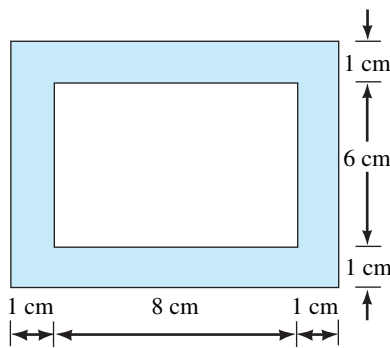

FIGURE 12–23
6. For the circuit of Figure 12–23, the length ℓ to use in Ampere’s law is (0.36 m, 0.32 m, 0.28 m). Why?